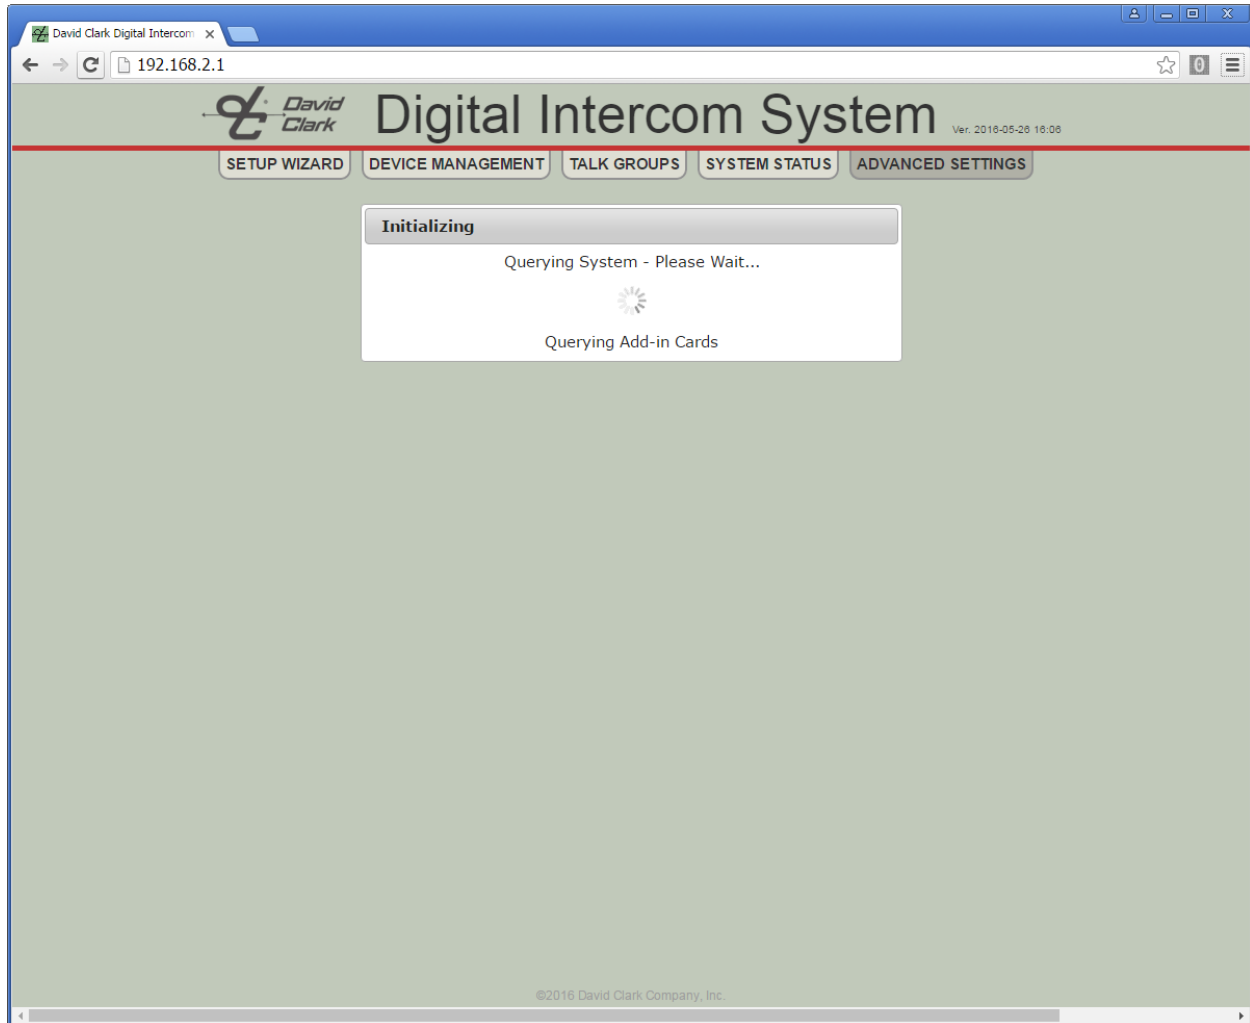

Figure 8.4
6. The user interface will begin loading. See **Figure 8.4**.